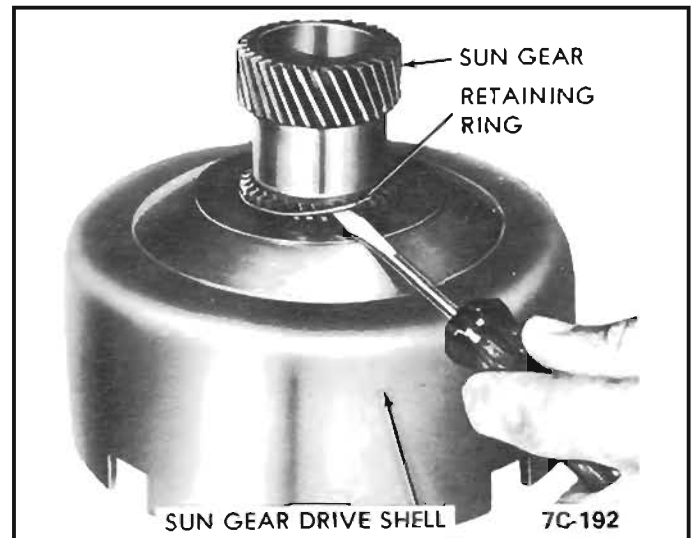

Figure 70 Sun Gear Retaining Ring Removal
1. Remove sun gear to sun gear drive shell rear retaining ring. See Figure 70.
2. Remove sun gear to drive shell flat rear thrust washer. See Figure 70.
3. Install sun gear to sun gear drive shell rear retaining ring. *See Figure 70.* Use a new ring and do not overstress when installing.